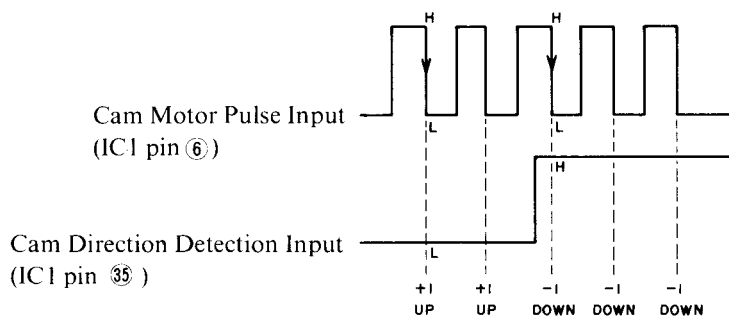

Fig. 6-2
6-1-8. PHOTO SENSOR B (PH3) is used for the detection of CAM direction. That part of the CAM MOTOR PULSE in which the pulse changes from "H" to "L" is used for counting up (+) and down (-) as indicated in Fig. 6-2 to set up CAM WHEELS (L) & (R).